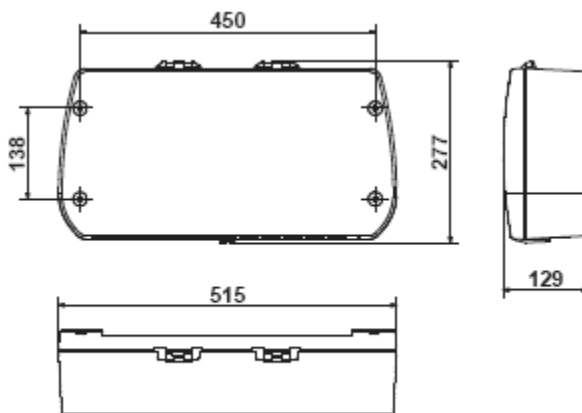

Fig. 7 Mounting Drawing
- (1) Mark the holes as shown in Fig. 7 for the four fixing screws.
- (2) Drill four holes of appropriate diameter for wall plugs.
- (3) Remove the front panel from the enclosure.
- (4) Fix the unit to the wall, by appropriate screws (M6 screws or 6.4 mm SPAX)
- (5) Attach lid with existing screws.